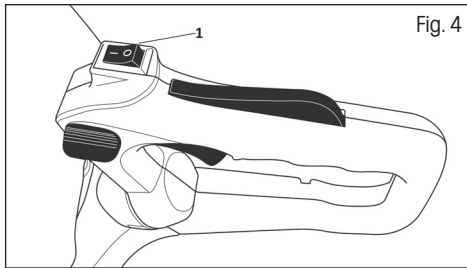

Fig. 4
1. Set the engine switch to the ON position (Fig. 4, point 1)
Set the engine switch to the OFF position (Fig. 4)